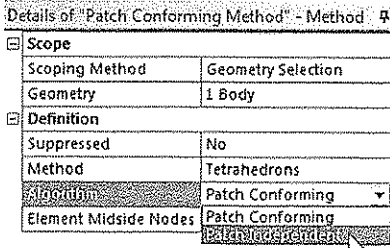

Figure 7-92 Selecting the *Patch Independent* option from the *Algorithm* drop-down list
7. In the **Details of "Patch Conforming Method"** window, select the **Patch Independent** option from the **Algorithm** drop-down list, as shown in Figure 7-92; the **Patch Conforming** node is replaced by **Patch Independent**. Also, the **Details of "Patch Conforming Method"** window is replaced by **Details of "Patch Independent Method"** window.